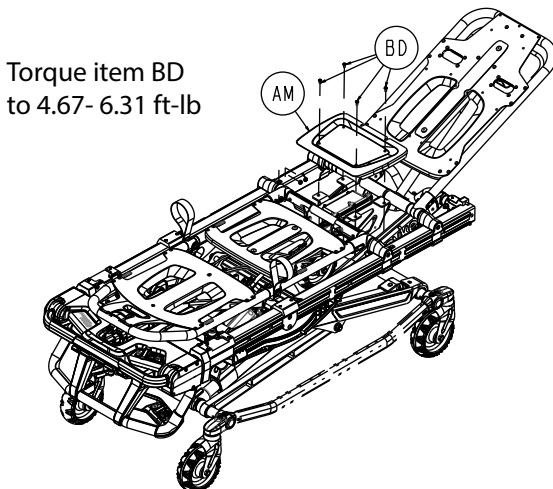

Figure 42 – Remove the seat skin screws
5. Using a T25 Torx driver, remove the four pan head thread rolling screws (BD) that secure the seat skin (AM) to the cot (Figure 42). Remove and save the seat skin. Save the screws.